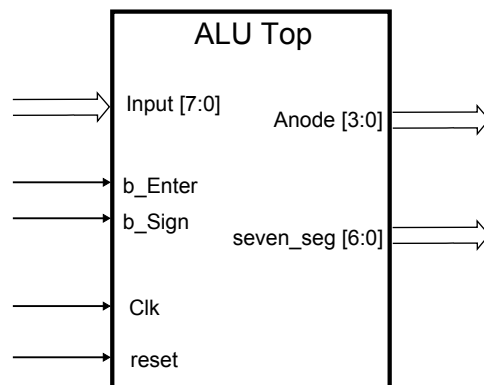

Figure 4: ALU\_top block
**Task 9** Add all the required VHDL files you have developed and verified so far in a project in Vivado. To connect the separate components of your design, add a new VHDL source file into the project and develop the VHDL code for the ALU top structure in case you have not done it so far. Use the interface model shown in Figure 4 for the top structure.